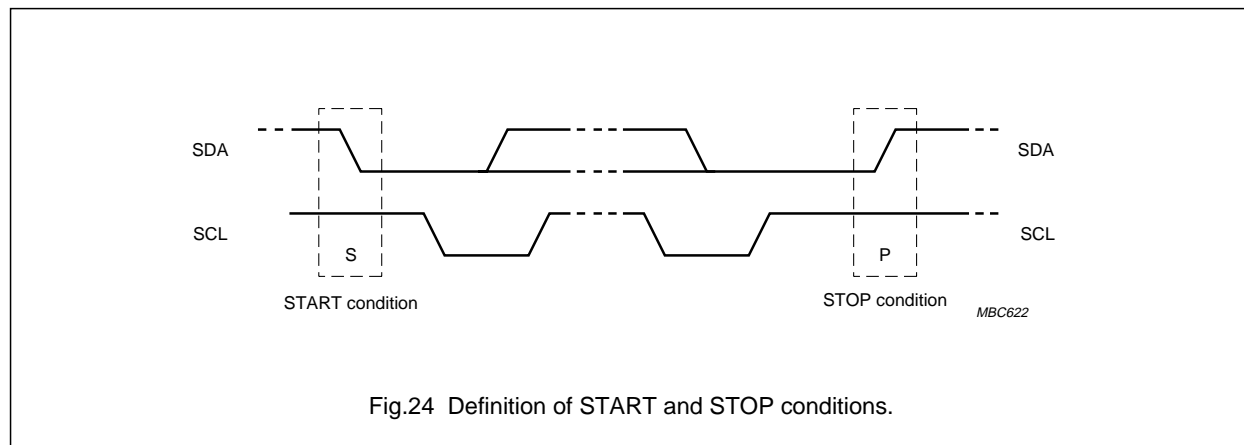

Fig.24 Definition of START and STOP conditions.
clock is HIGH is defined as the START condition (S). A LOW-to-HIGH transition of the data line while the clock is HIGH is defined as the STOP condition (P). See Fig.24.